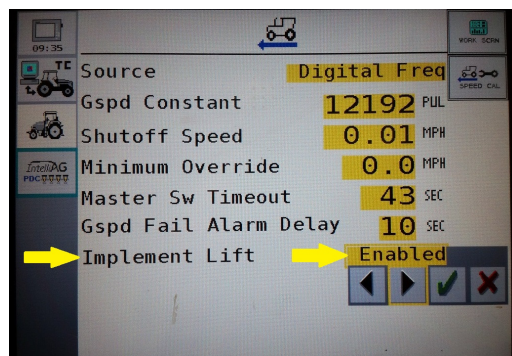

Figure 57
Step 13. Select **Implement Lift** and **Enable**. (Figure 57)